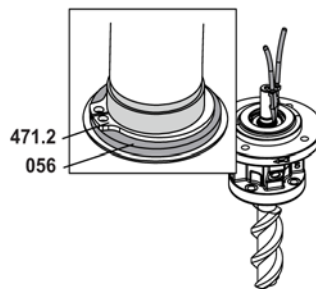

Fig. 28
5. Slide the supporting ring **056** onto the shaft. Mount the circlip **471.2**, see Fig. 28.